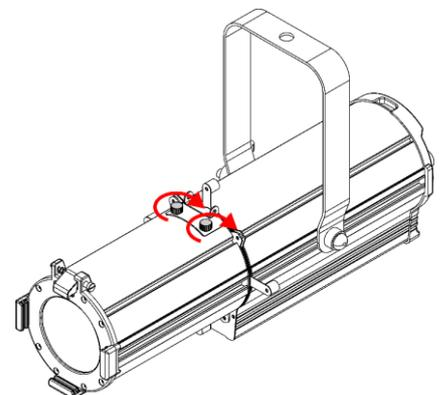

Fig. 15
- 07) Tighten the two **cover plate thumbscrews (09)** to secure the **gobo slot cover plate (10)** at its place (see Fig. 15).